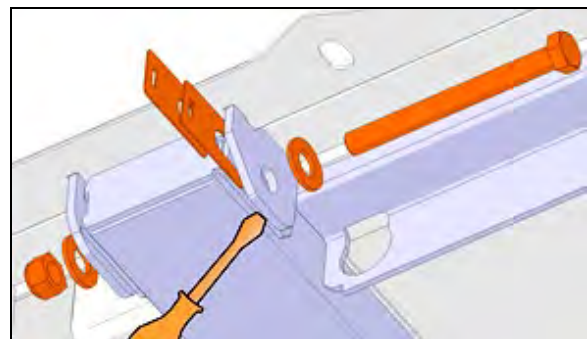

FIGURE 24: SHIM INSTALLATION, TRANSVERSE SCREW. ARRANGEMENT MAY VARY
- Shim arrangement may vary and may be stacked on both sides (Figure 24).